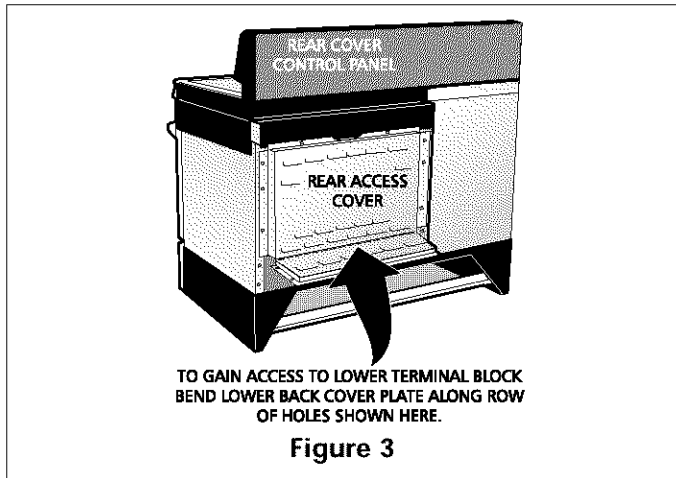

Figure 3
- A. Remove the 3 screws at the lower end of the rear wire cover, then raise the lower end of the rear wire cover (access cover) upward to expose range terminal connection block (see Figure 3).